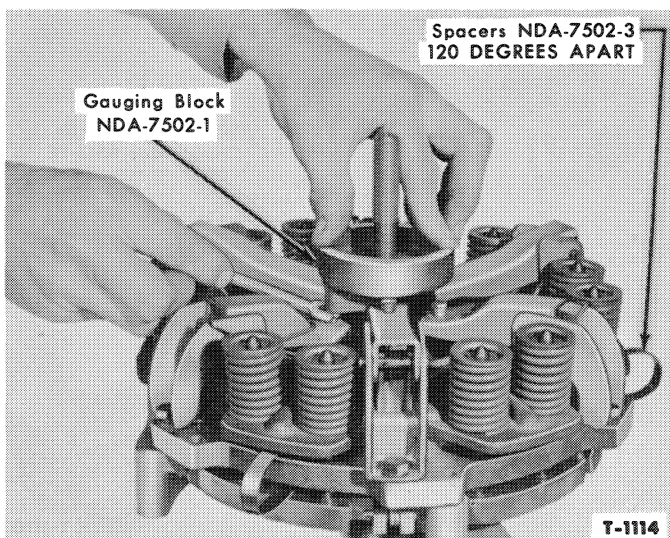

Figure 13—Adjusting Clutch Fingers
4. Remove gauging tool and reinstall tool in the inverted position, as shown in Figure 13. The